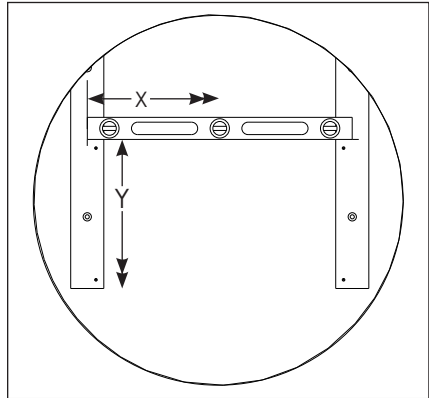

Figure 1: Measure & Mark First Panel Location
1. Measure and mark the correct panel location. Refer to **Figure 1**.